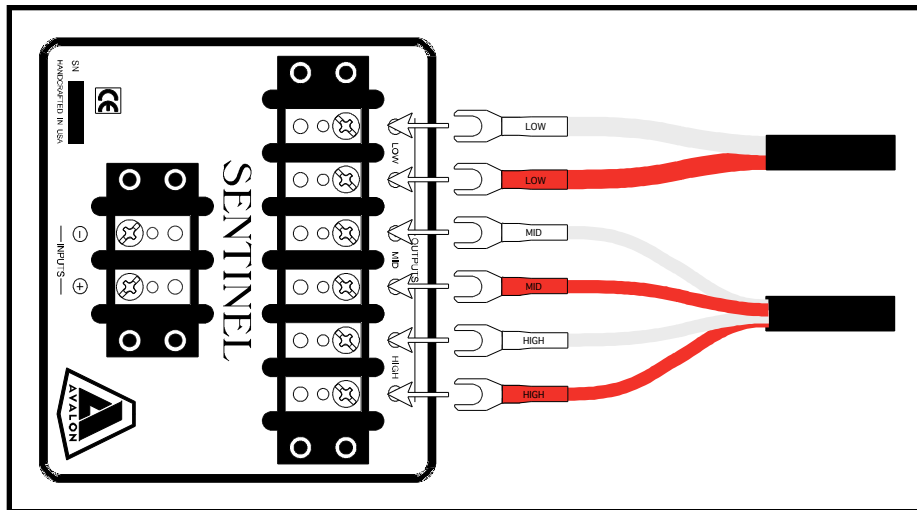

Figure 4.1 – Connecting the upper speaker cabinet wiring harnesses to the crossover. RED is positive (+) and WHITE is negative (-).
2. Connect the upper speaker cabinet wiring harnesses (routed through the wiring tubes in the lower speaker cabinet) to the **OUTPUT** terminal block on the bottom of the crossover cabinet, as shown in Figure 4.1.